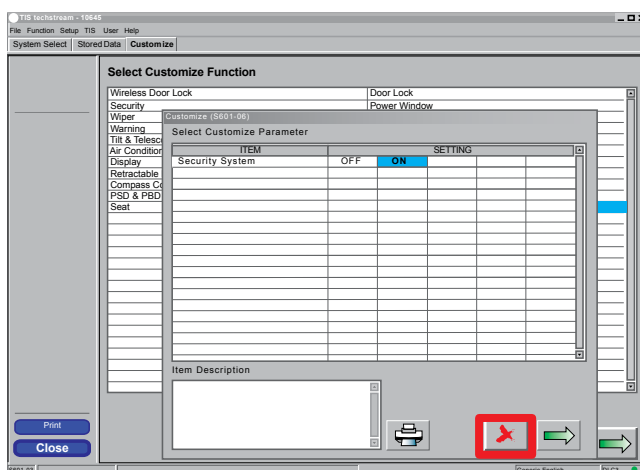

Fig. 5-9
- o. Click “Next” to accept the changes to the Vehicle. (Fig. 5-9)